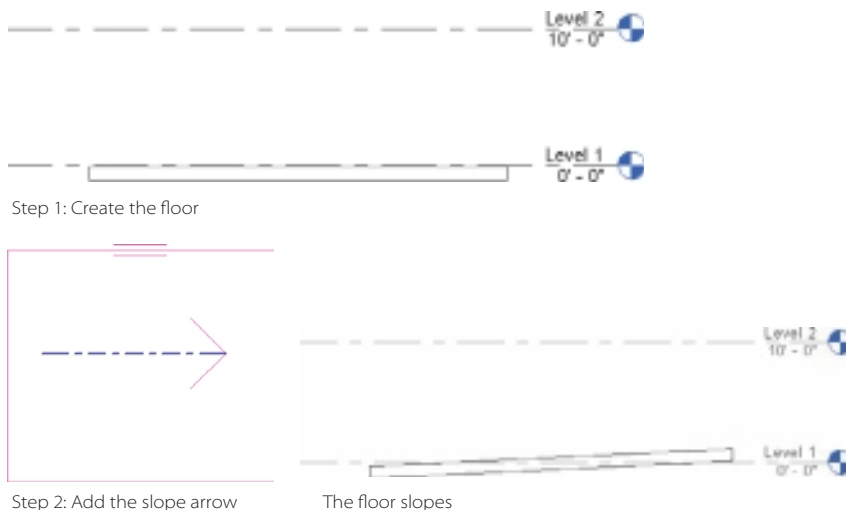

Figure 3.94
6. In the Mode panel, click the Finish Edit Mode button to create the sloped floor (Figure 3.94).